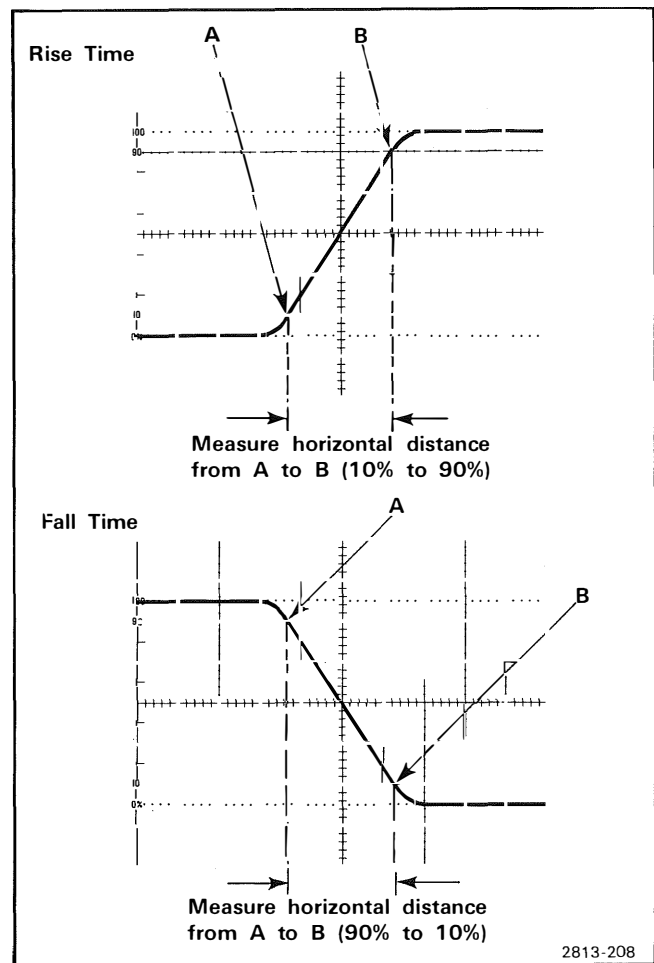

Figure 2-8. Measuring the rise time and fall time of a pulse.
6. Set the TIME/DIV and POSITION controls to display the rising or falling portion of the waveform within the center eight graticule divisions as shown in Figure 2-8 (see General Operating Information in this manual for discussion of timing measurement accuracy).
7. Determine rise time or fall time by measuring the horizontal distance in divisions between the point on the rising or falling portion of the waveform that is 10% and the point that is 90% of the total display amplitude (see Fig. 2-8).
EXAMPLE: Assume that the horizontal distance between the 10% and 90% amplitude points is 2.5 divisions, and the TIME/DIV setting is 0.1 μ s (see Fig. 2-8).